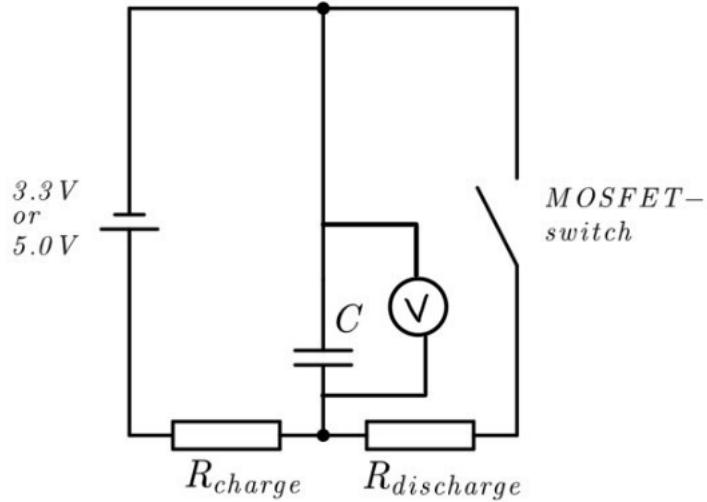

Figure 1.1: MOSFET Switch Circuit Diagram
1. The circuit was set up following the circuit diagram **Fig 1.1**.